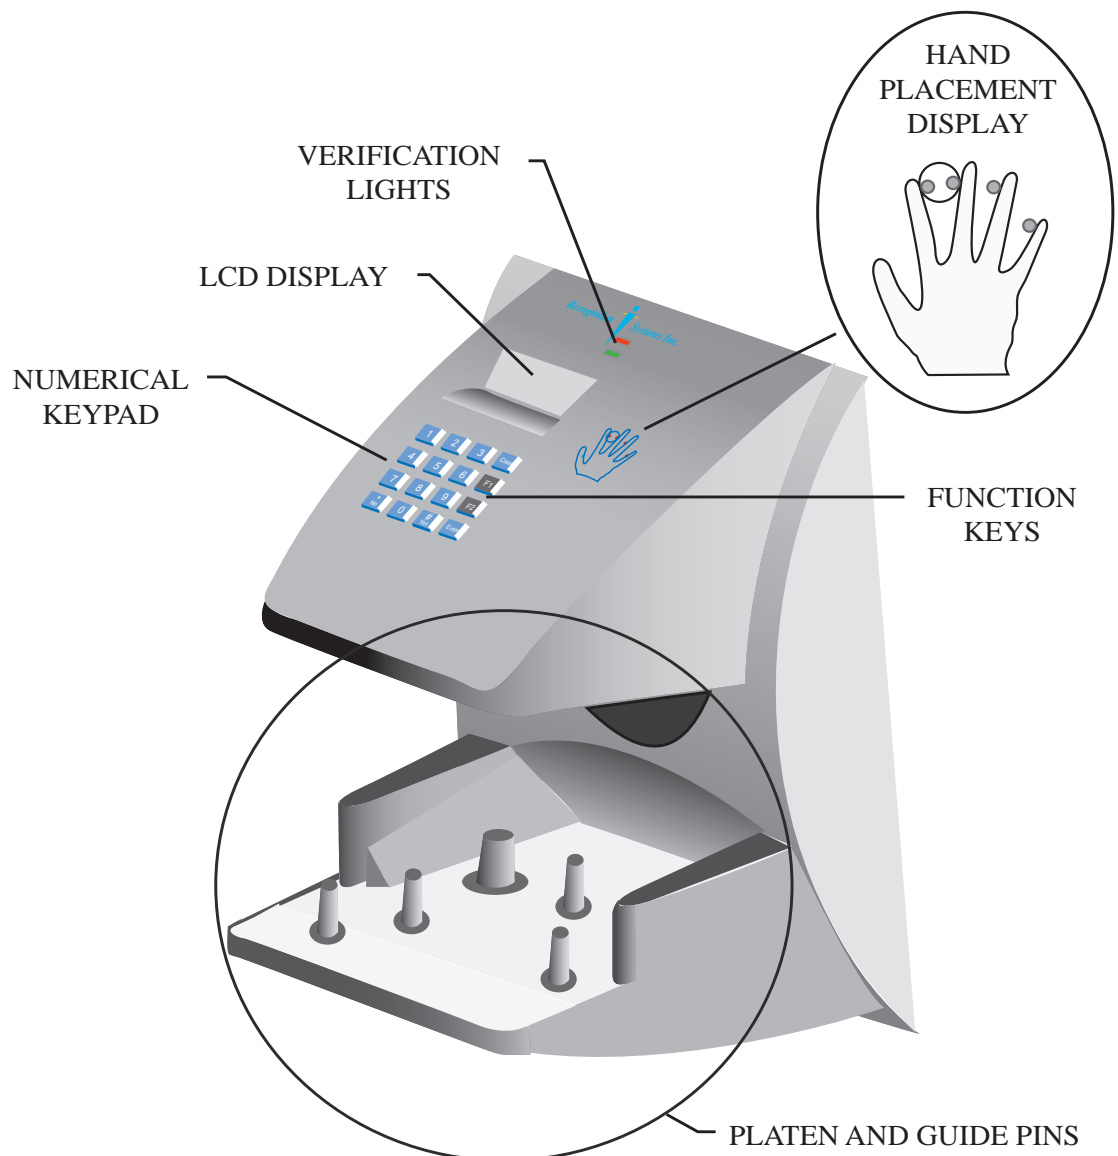
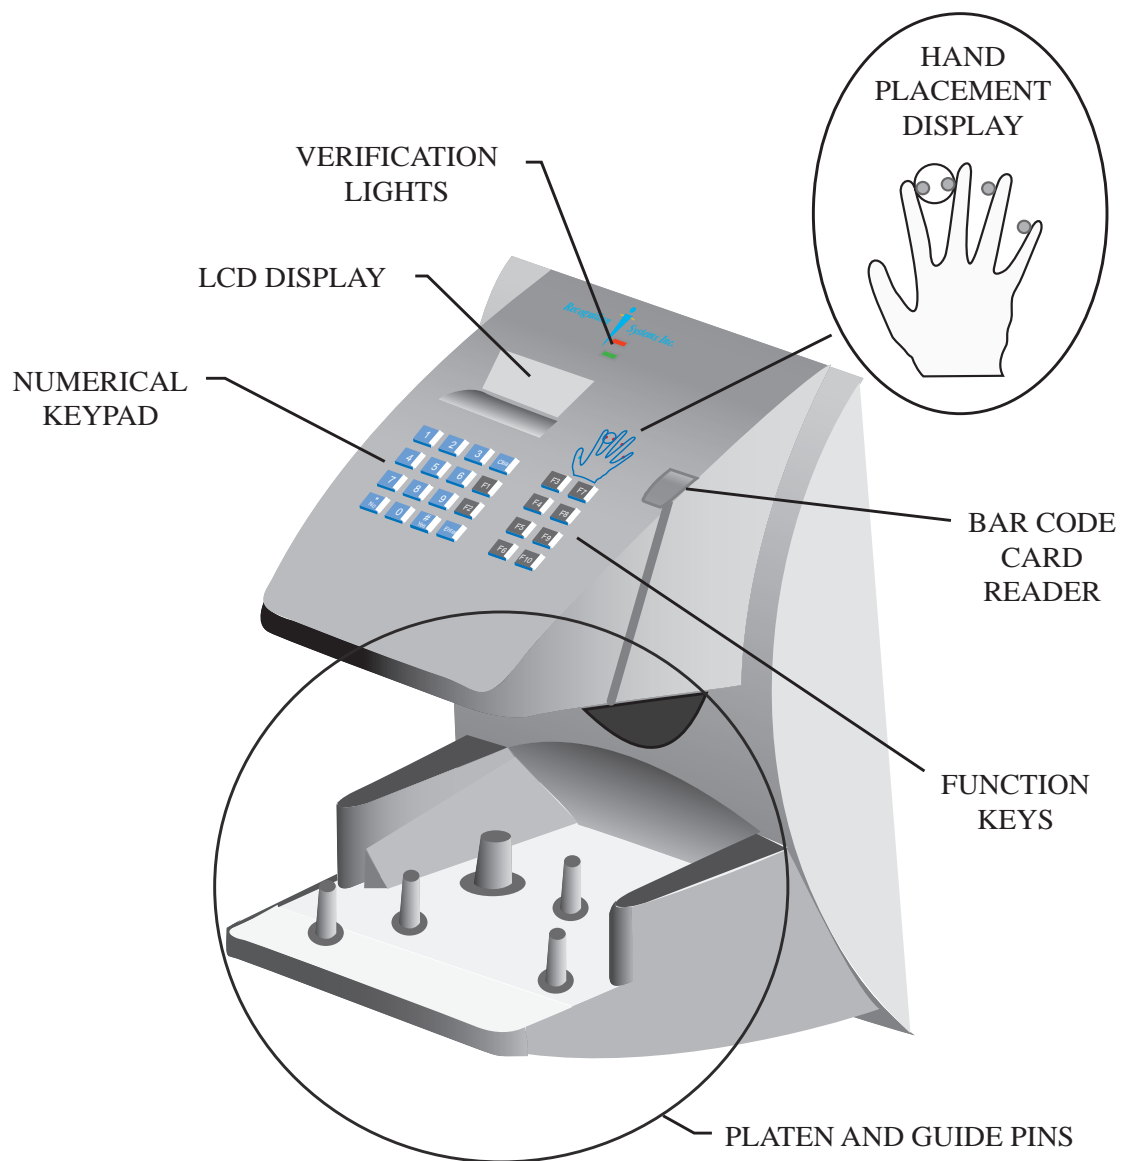

Figure 1-1: The HandPunch 3000
Figure 1-2: The HandPunch 4000
The HandPunch is a time and attendance terminal designed for use with time and attendance software. Refer to Figures 1-1 on page 5 and 1-2 on page 6 when reviewing the information in this section.
The HandPunch has an integrated keypad for ID entry and reader programming. The HandPunch 3000 has two function keys (F1 and F2 – see Figure 1-1). The HandPunch 4000 has ten function keys (F1 through F10 – see Figure 1-2). These function keys can be programmed to collect data or to activate auxiliary outputs.
1. The Platen is the flat surface at the base of the HandPunch (see Figure 1-1). This is where users place their hands for enrollment and verification. It has guide pins to assist positioning the fingers during use.